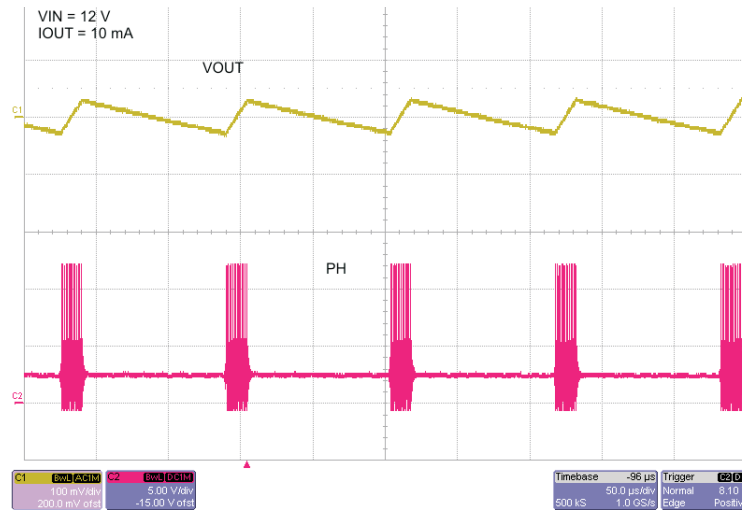

Figure 11. TPS54232EVM-415Eco-mode™ Operation
Figure 11 shows Eco-mode operation, channel 1(C1) shows the output voltage while channel 2(C2) shows the switching node (PH).